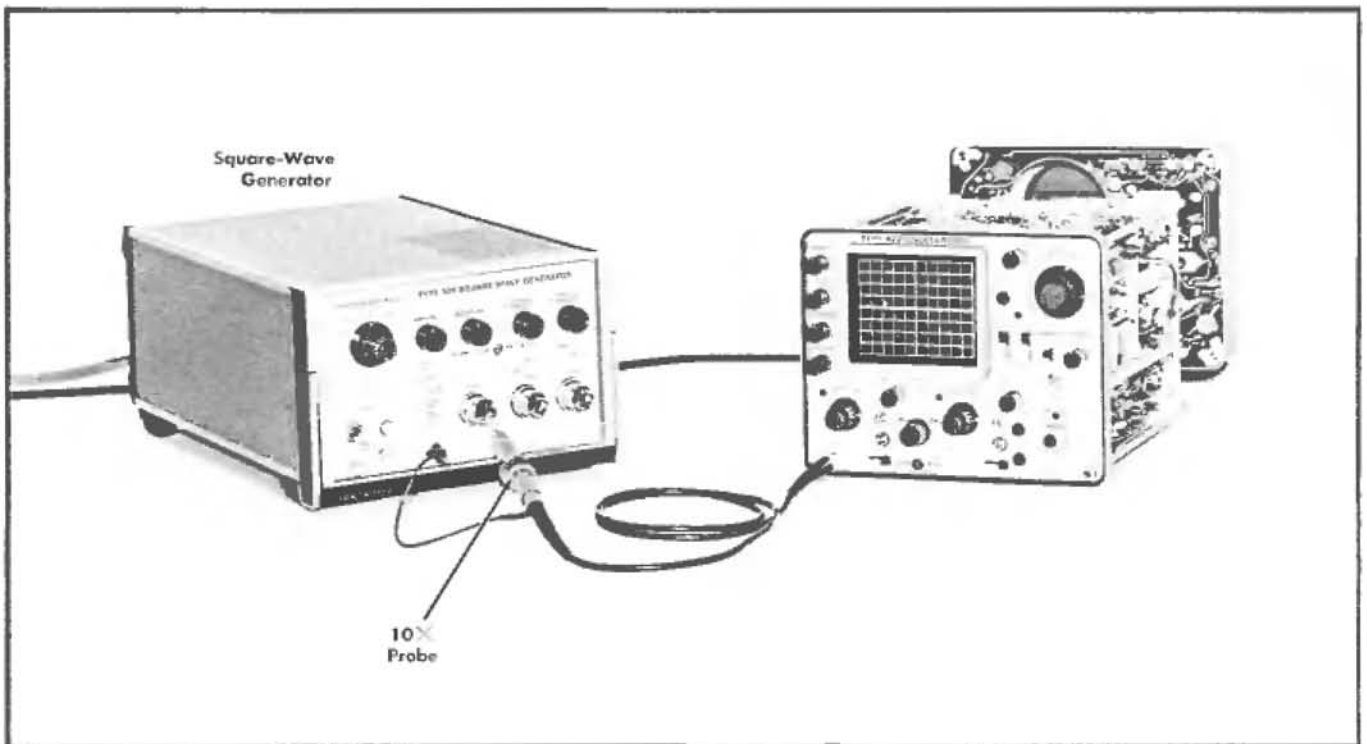

Fig. 6-21. Initial test equipment setup for steps 20—22.
①
- a. Test equipment setup is shown in Fig. 6-21.